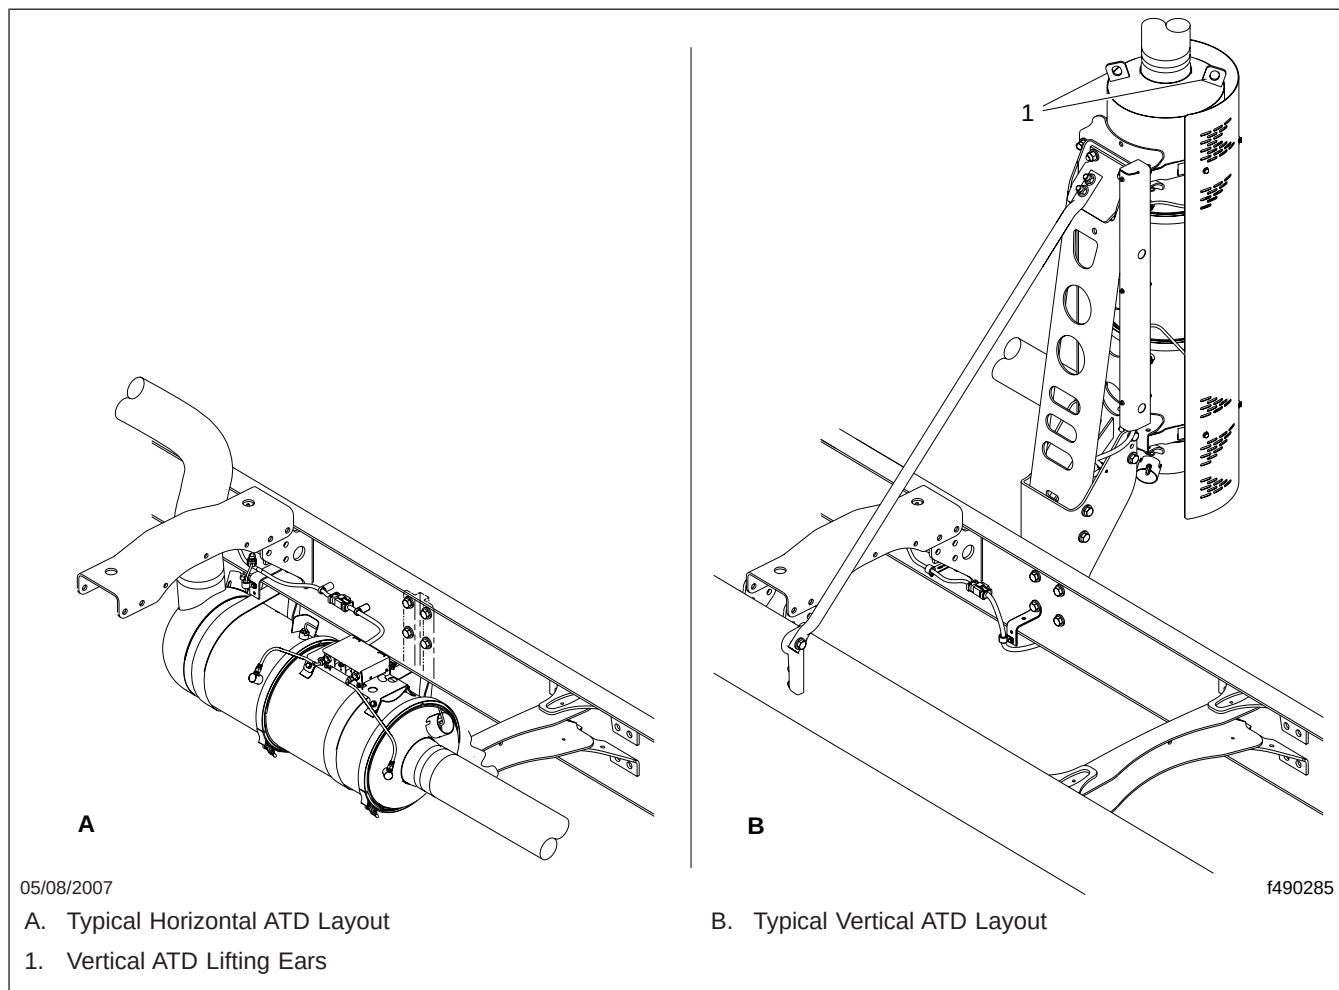

Fig. 2, ATD Mounting Options
3. Mark the Marmon fitting joints and mounting bracket orientation to the ATD, so that it can be installed exactly as it was removed. See Fig. 2.